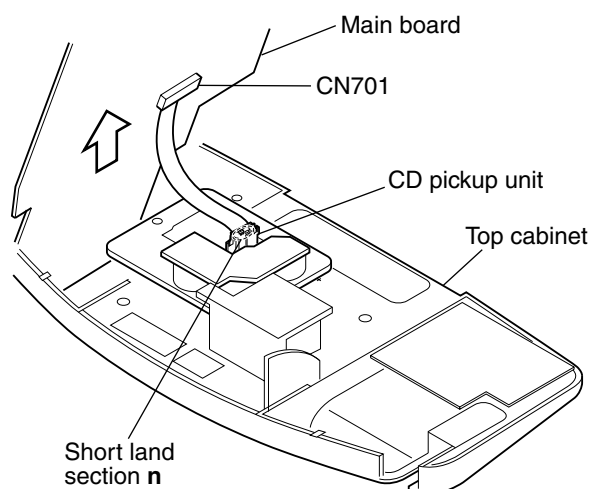

Fig.15
7. After soldering, disconnect the card wire from the connector CN701 on the main board. (See Fig.15.)